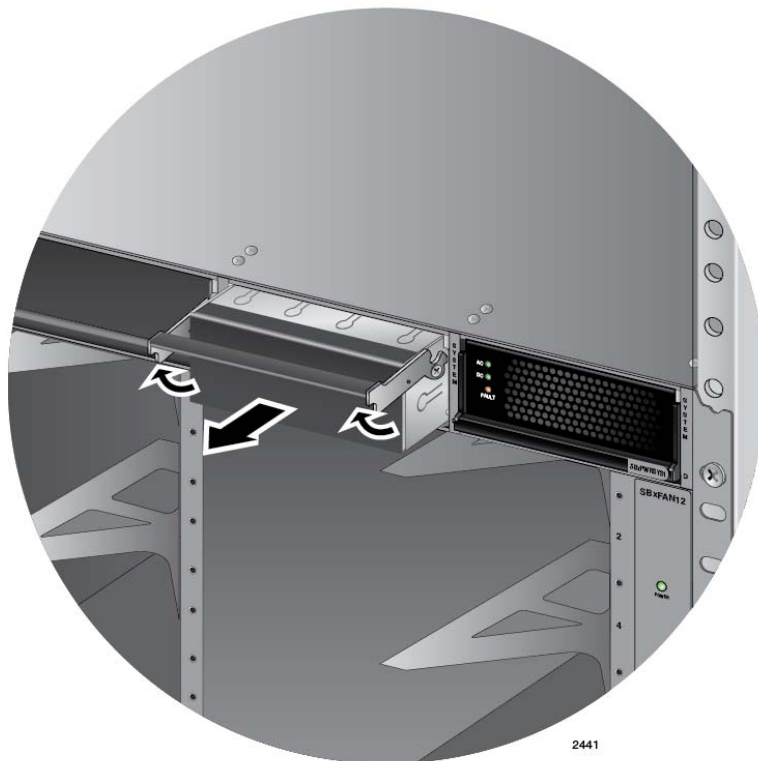

Figure 57. Removing the Blank Slot Cover from Power Supply Slot C
2. If the chassis already has a power supply in slot D, remove the blank power supply panel from slot C by lifting the blank panel handle and sliding it out of the slot, as shown in Figure 57.